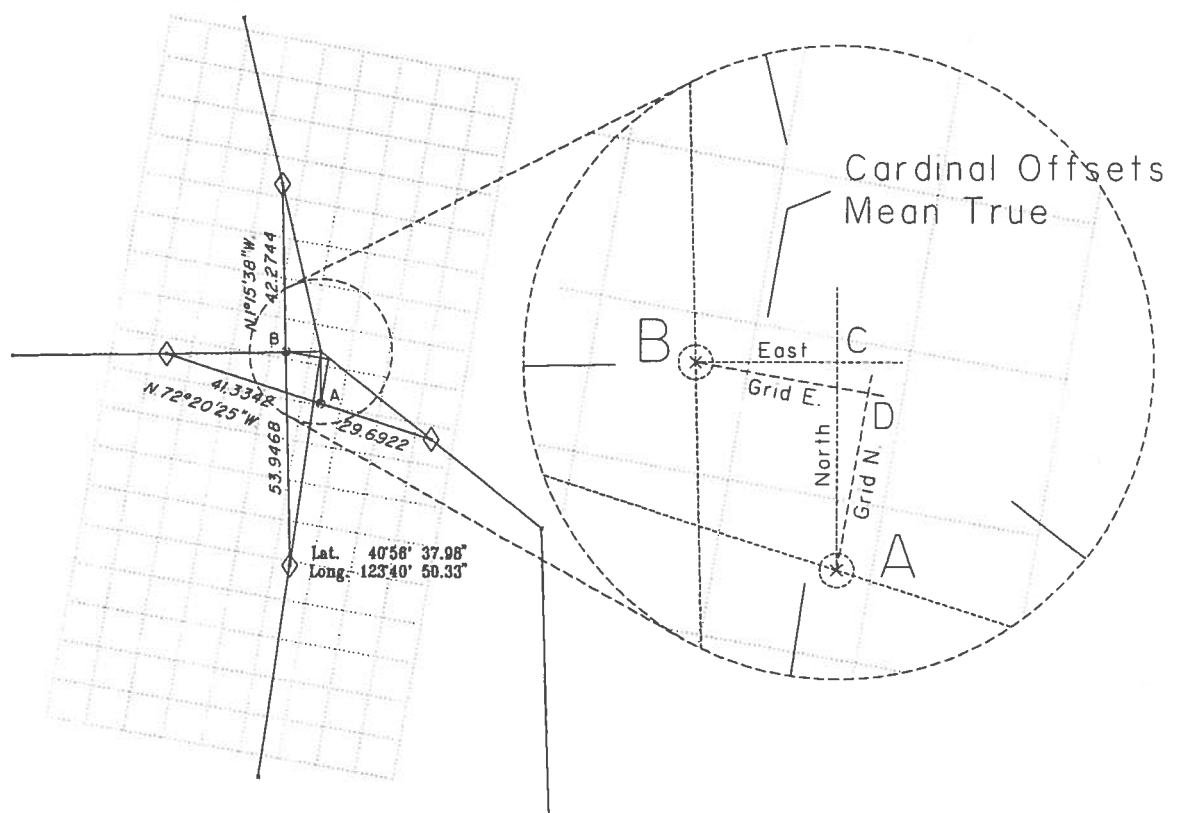

Figure 1 - Cardinal Offsets True vs. Grid
- 1) A single proportion using the record E-W cardinal equivalents between the control E and W. In the Figure 1 example this would be point 'A'.
- 2) A single proportion using the record N-S cardinal equivalents between the control N and S. In the Figure 1 example this would be point 'B'.
This last requirement can be a problem if you are not careful using coordinates, since to make the offsets *cardinal* requires knowledge of and proper correction to true north at those points. The common process of using the East coordinate of the E-W proportion and the North coordinate of the N-S proportion is equivalent to making a GRID offset, exaggerated in Figure 1 as point 'D', which can be incorrect.